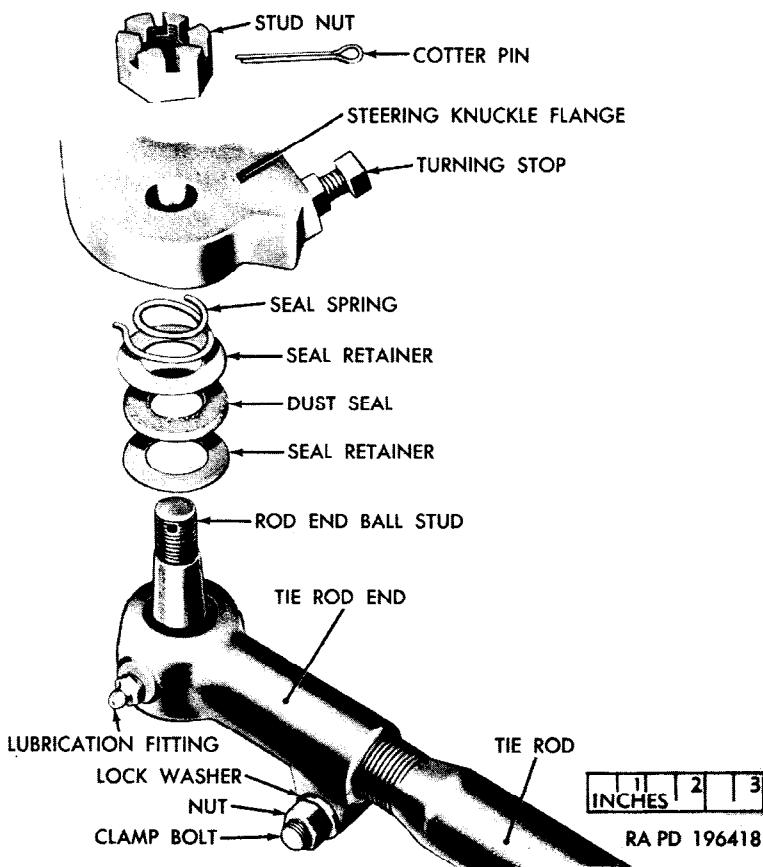

Figure 170. Tie rod—exploded view.
- (1) Detach the left tie rod end or both tie rod ends, if necessary, from the steering knuckle flange or flanges (par 204a).
- (2) Loosen the nut on the clamp bolt in the left tie rod end (fig. 170) or both ends, as required. Turn the end or ends counter-clockwise to increase toe-in, or clockwise to decrease toe-in.
- (1) Remove the dust seal spring, the dust seal, and two seal retainers from each rod end ball stud (fig. 170). Discard the seals.
- (1) Install a $\frac{1}{8}$ NPT male lubrication fitting in each tie rod end (fig. 170).
- (2) Screw the tie rod ends on the tie rod, installing the right end at the offset end of the rod. Turn the two ends an equal amount on the rod until the distance from center to center of the ball studs is $48\frac{1}{16}$ inches and the lubrication fittings in both ends are toward the rear.
- (3) Install the $\frac{7}{16}$ -20NF x $1\frac{7}{8}$ clamp bolt in each tie rod end from the front) and install a $\frac{7}{16}$ -inch lockwasher and a $\frac{7}{16}$ -20NF nut on each bolt. Do not tighten the nuts at this time.
- (4) Install the dust seal and related parts on each ball stud. Place a seal retainer on each side of the dust seal, install the parts on the ball stud, and install the dust seal spring with the larger diameter down.
- (5) Insert the ball studs up through the openings in the flanges. Install the two stud nuts but do not tighten.
- (6) Lubricate both tie rod ends with automotive and artillery lubricating grease.
- (7) Measure the toe-in (par. 203c) and adjust if necessary (par. 203d). Tighten the nuts on both tie rod end clamp bolts securely, and tighten the two stud nuts to 130–150 pound-feet torque. Install a $\frac{1}{8}$ x $1\frac{5}{8}$ cotter pin in each stud.